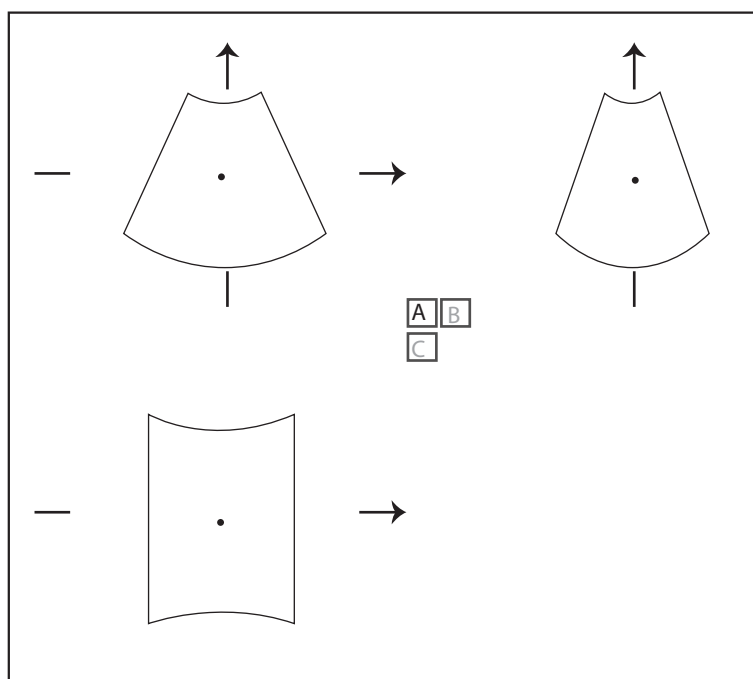

Figure 6-37 C-Plane Image Screen
1. Tap **C-Plane** tab on the touch screen to enable this feature as shown in Figure 6-37.